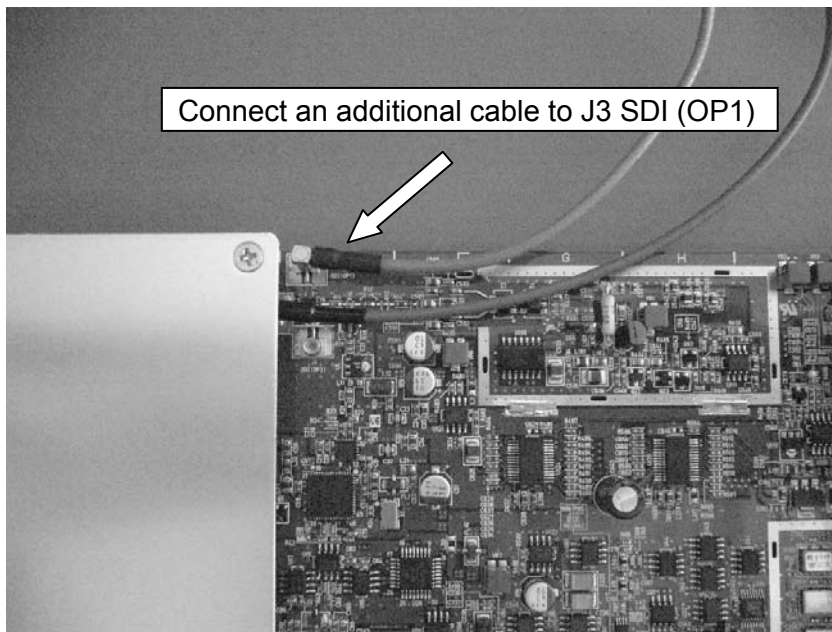

Figure 5-7 To install up to two of the LV 58SER01A and LV 58SER04
2. To install up to two of the LV 58SER01A and LV 58SER04, connect a cable sold separately to J3 (OP1) on the LV 58SER02 as shown in Figure 5-7.